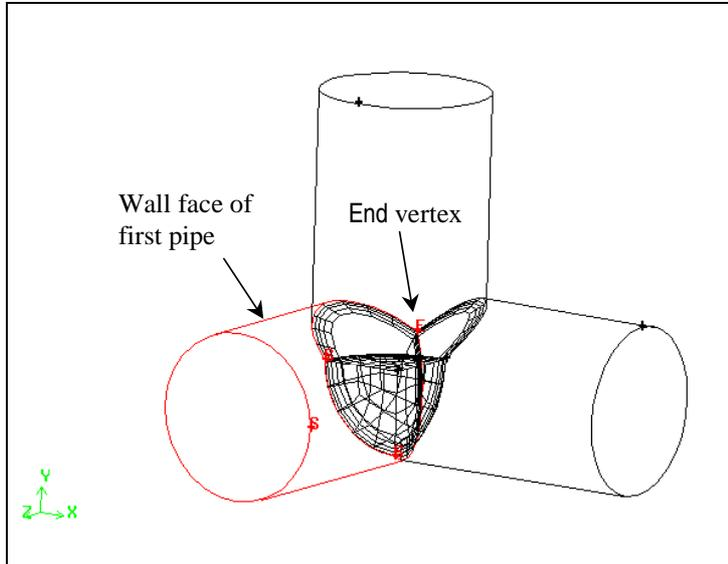

Figure 3-14: Wall face of the first pipe volume showing the End vertex
- ii. Select the wall face of the pipe (shown in Figure 3-14) in the graphics window. Note the vertex on the wall face marked with an “E” for End (where the three pipes intersect).
- iv. Select the vertex that was marked with an “E” in the graphics window (where the three pipes intersect, as shown in Figure 3-14).